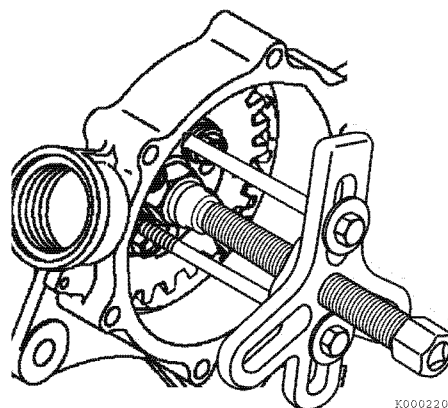

Figure 7-20
17. Remove the injection pump drive gear and hub from the injection pump drive shaft as an assembly using an appropriate gear puller (**Figure 7-20**).